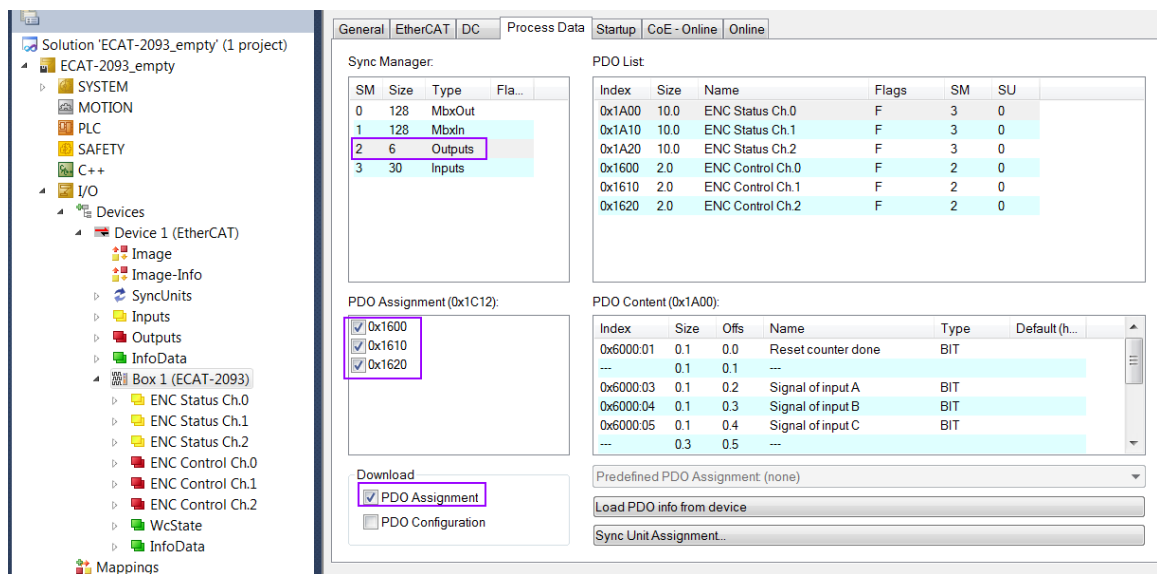

Figure 21: Predefined PDO assignment selection
2. For RxPDO selection: click in the "Sync Manager" window the "Outputs" line and in the "PDO Assignment (0x1C12)" window select for each encoder channel the required RxPDO (see Figure 21). For the ECAT-2093 only one RxPDO object for each encoder channel is available for selection. By default TwinCAT selects all the process data supported by the ECAT-2093. If the variables listed in the RxPDO are not required for the application then deselect the PDO in order to reduce the process data image size.